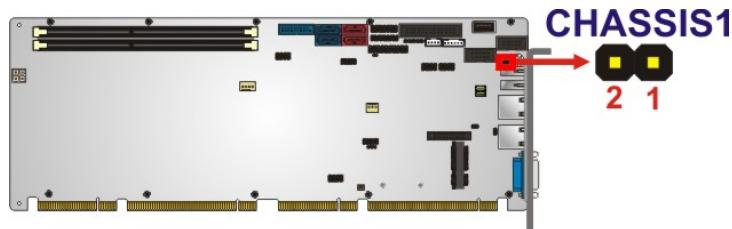

Figure 3-5: Chassis Intrusion Connector Location
**CN Location:** See Figure 3-5